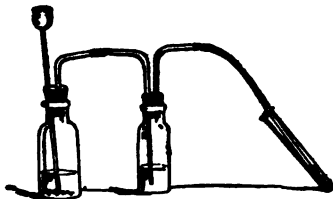

Fig. 36.
(1) Put into a gen. (rec. or t.t.) 5^g FeS, 10^{cc} H₂O, and 5^{cc} HCl (or H₂SO₄). Adjust a d.t., having the joints perfectly tight, and pass the gas for a minute or two into 5^{cc} H₂O in another t.t. or beaker (Fig. 36). Note the odor. Can you determine whether the gas is soluble in H₂O? (2) See whether the sol. is acid, alkaline, or neutral. With a s.r. put a drop of